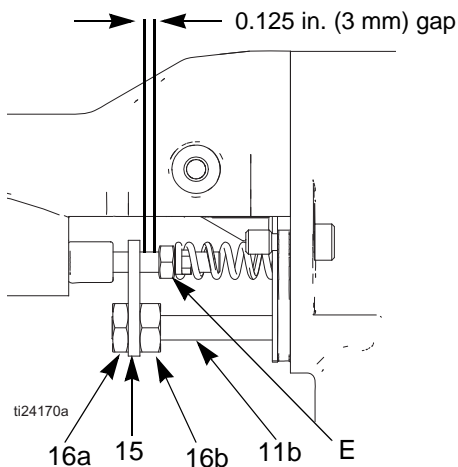

FIG. 33. Actuator Arm Adjustment
2. Remove the air cap, page 42. Remove the gun shroud (26).
3. Remove the jam nut (16) and actuator arm (15) and adjustment nut (16). See FIGURE 33.
3. Remove the jam nut (16), actuator arm (15), and adjustment nut (16). See FIGURE 33.
See FIGURE 33.
3. Remove the adjustment nuts (16a, 16b) and actuator arm (15). See FIGURE 33.